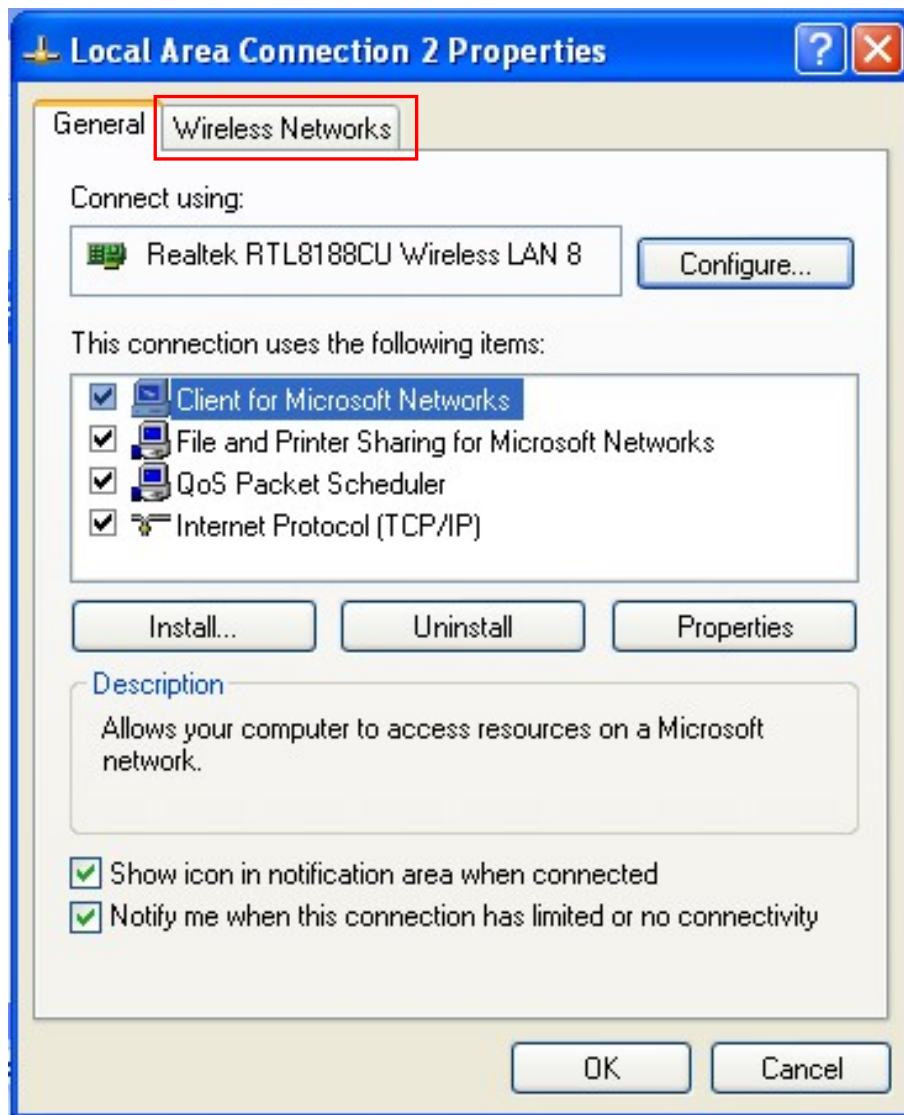

Figure 7
- (2) When the window of "Local Area Connection 2 Properties" pops up, click "Wireless Networks" in the upper side of the window. (As shown in figure 7)